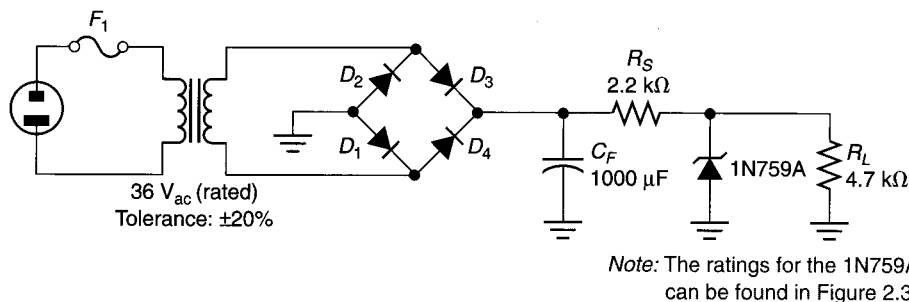

FIGURE 3.68
57. The circuit shown in Figure 3.68 has measured output values of  $V_{dc} = 12\text{ V}$  and  $V_r = 1.22\text{ V}_{pp}$ . Determine whether or not there is a problem in the circuit. (Remember: Transformer tolerances can be as high as  $\pm 20\%$ .)
59. The primary fuse in Figure 3.68 must be replaced. Determine the minimum acceptable value for the fuse, assuming that its value must be 20% greater than the primary current. Assume you have the following rated fuses:  $\frac{1}{8}\text{ A}$ ,  $\frac{1}{4}\text{ A}$ ,  $\frac{1}{2}\text{ A}$ , 1 A, 2 A, and 5 A.